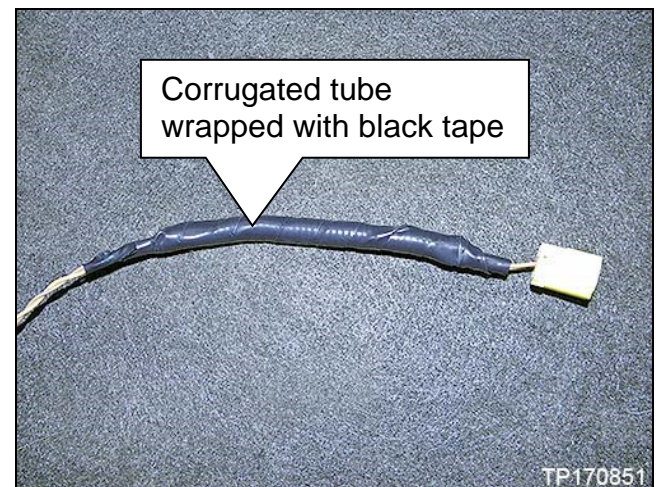

Figure 30
23. Wrap the corrugated tube and new harness as shown in Figure 30 with the tape supplied in the harness kit.